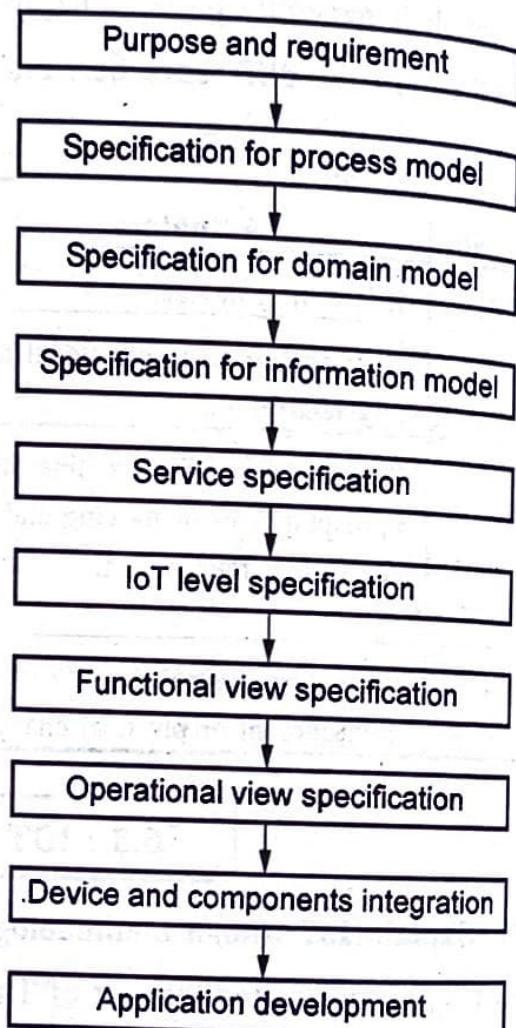

Fig. Q.17.1 Design methodology steps
- Fig Q.17.1 shows design methodology steps.